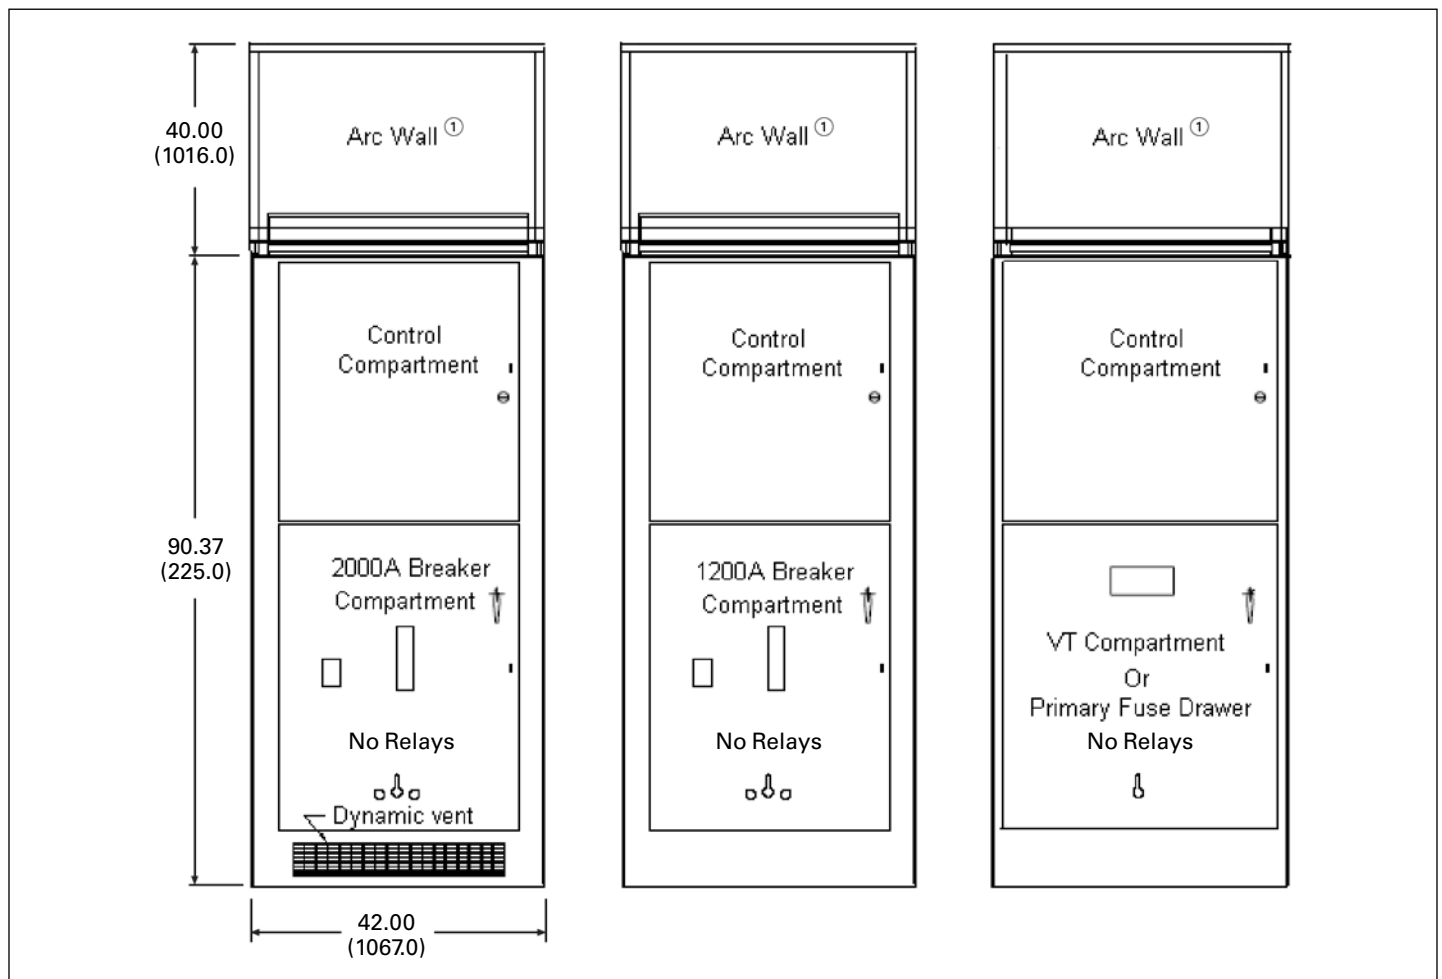
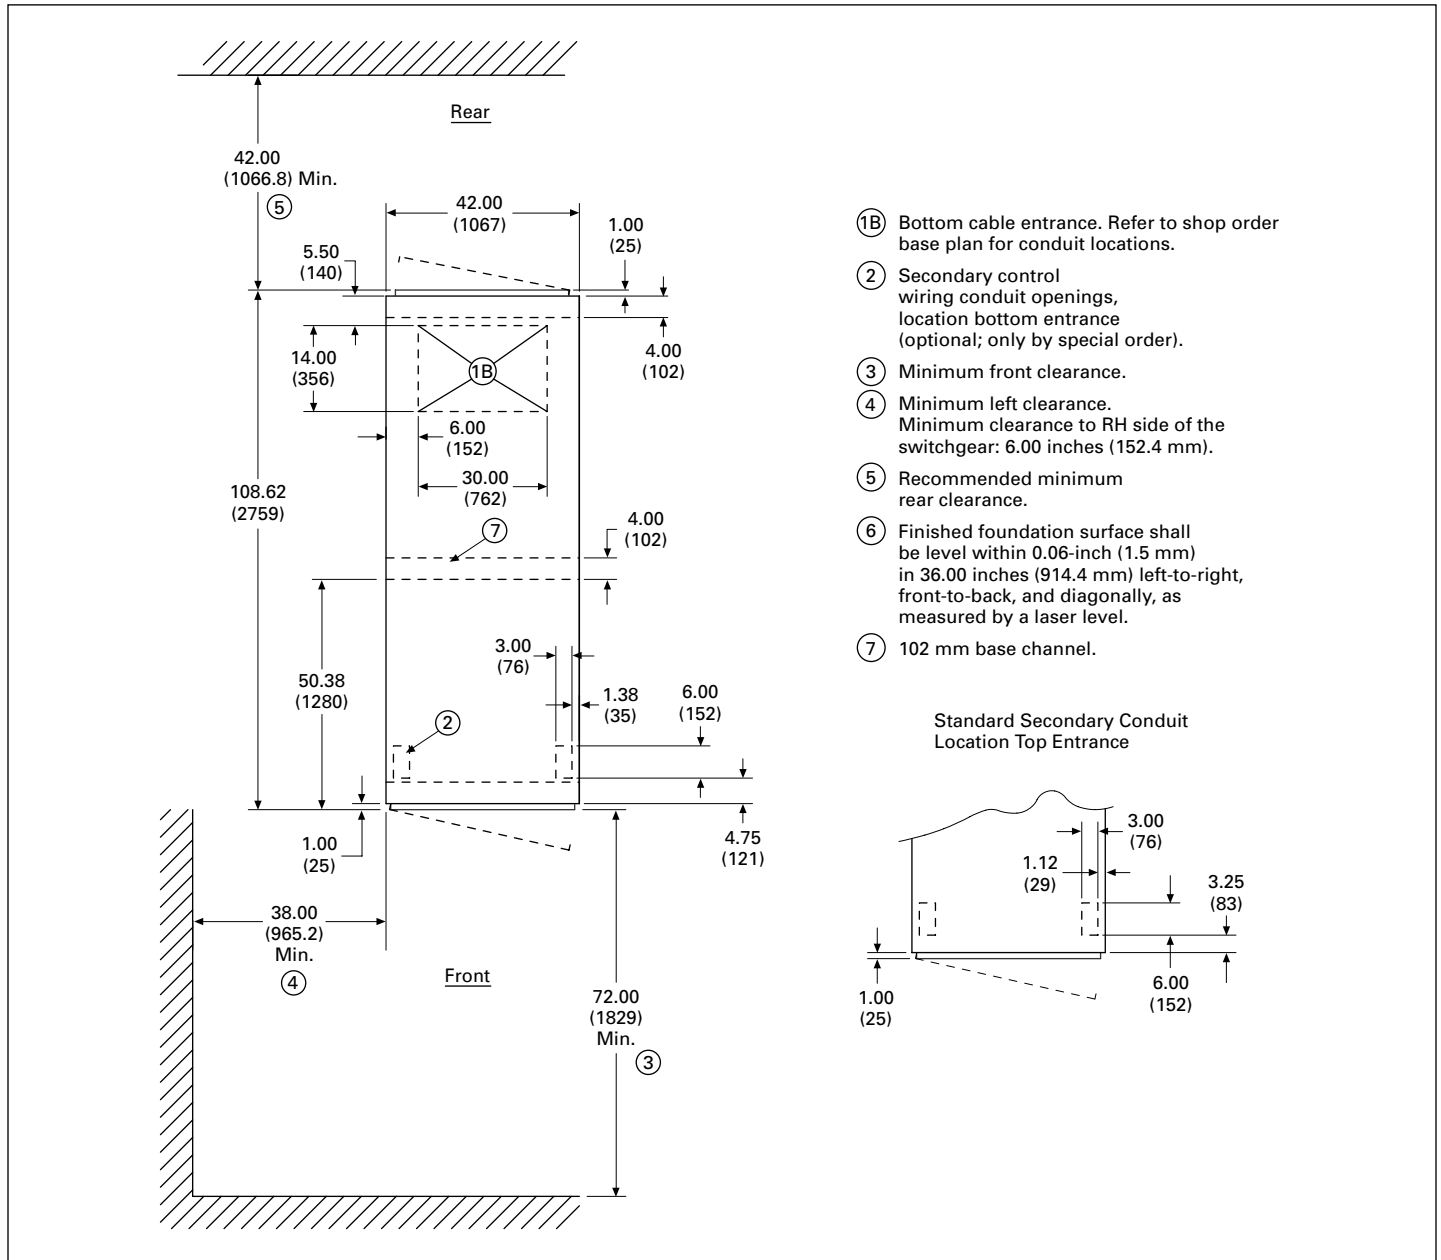

Figure 5.5-9. Available Arc-Resistant Switchgear Configurations (Front Views)—27 kV
Figure 5.5-11. Typical Arc-Resistant Switchgear Floor Plan—27 kV
3. Refer to **Figure 5.5-9** to **Figure 5.5-11** for dimensions.